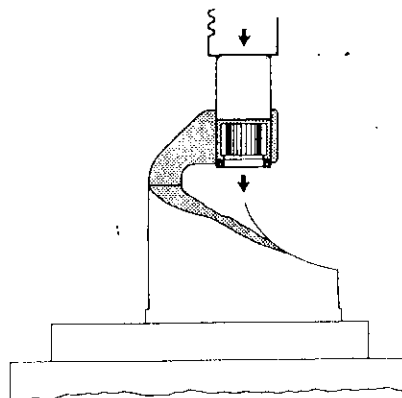

Figure 3.4
4. Remove nine drive housing adapter screws (34).
5. Remove the drive housing adapter, making sure that the drive housing bushing (31) remains in place.
6. Remove drive housing, bushing and retainer (31).
7. Remove retainer (32) from bushing.
8. Press out the drive housing bearing (36) and seal (35) from adapter. See Figure 3.4.